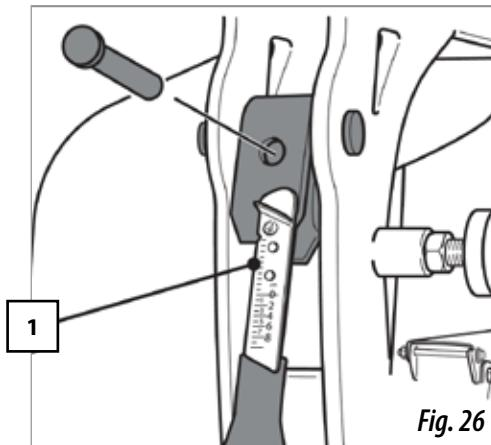

Fig. 26
**NO-TILL SOWING:** THE BLOCKING BOLT IS PLACED AND THE SLIDE'S POSITION (FIG. 26/1) IS FROM THE SCALE TOWARDS THE TOP.
**SOWING TILLED LAND:** WITHOUT THE THE BLOCKING BOLT AND THE SLIDE'S POSITION (FIG. 26/1) FROM THE SCALE TOWARDS THE BOTTOM.